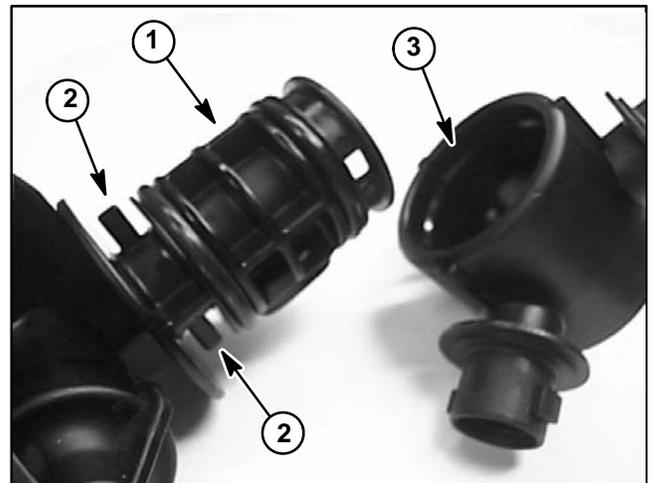

Figure 34
- A. The end of the turret with the slightly larger bore has detent grooves (Fig. 34). The detent grooves need to align with the detent posts on the body.
- B. Make sure to align notch on plug (item 10) with groove in body (item 4) as plug is installed.
- C. Install e-clip (item 5) into body to secure assembly.